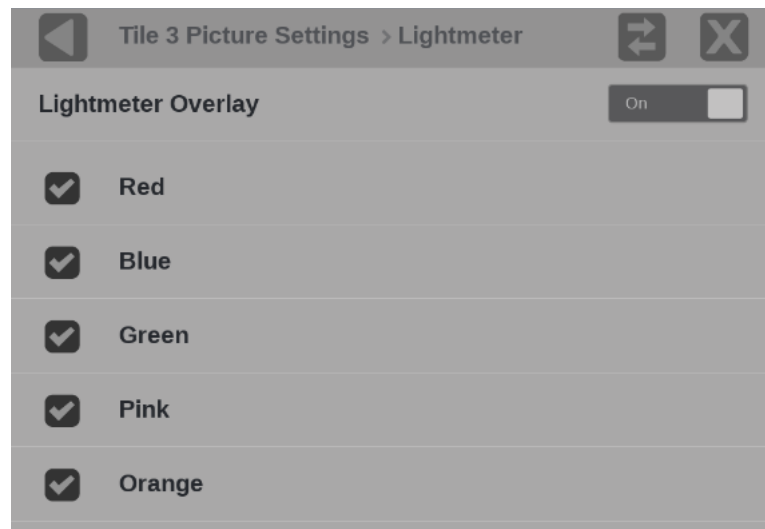

Figure 116: Lightmeter overlay menu and available cursors
3. Select the number of needed Lightmeter cursors (up to 5). (See Figure 116.)